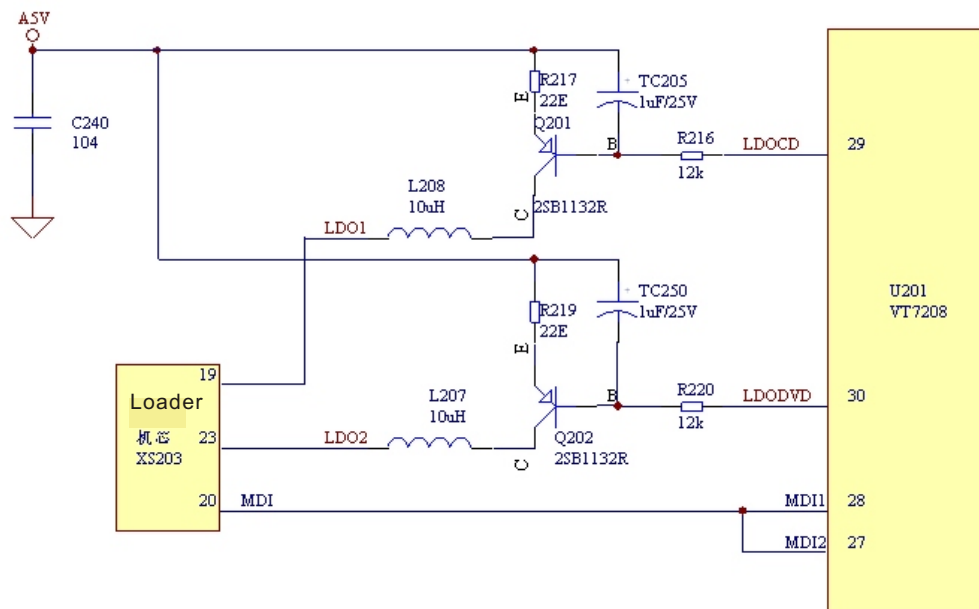

Figure 3.2.4.1 Laser power control circuit diagram
1. Laser power control circuit is shown as the following figure 3.2.4.1: